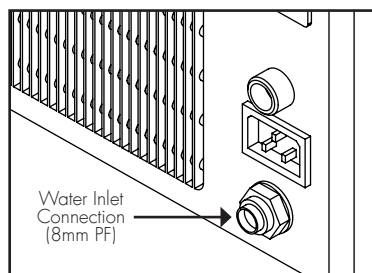

Fig 1
8. Connect the free end of the pipe to the water inlet point on the dispenser (see Fig 1).